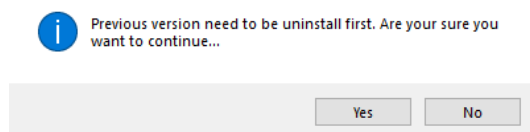

Figure 2.12: Uninstall Window
7. The installer will immediately detect the previous version and present the option of uninstalling it (Fig. 2.12). **Click Yes**.